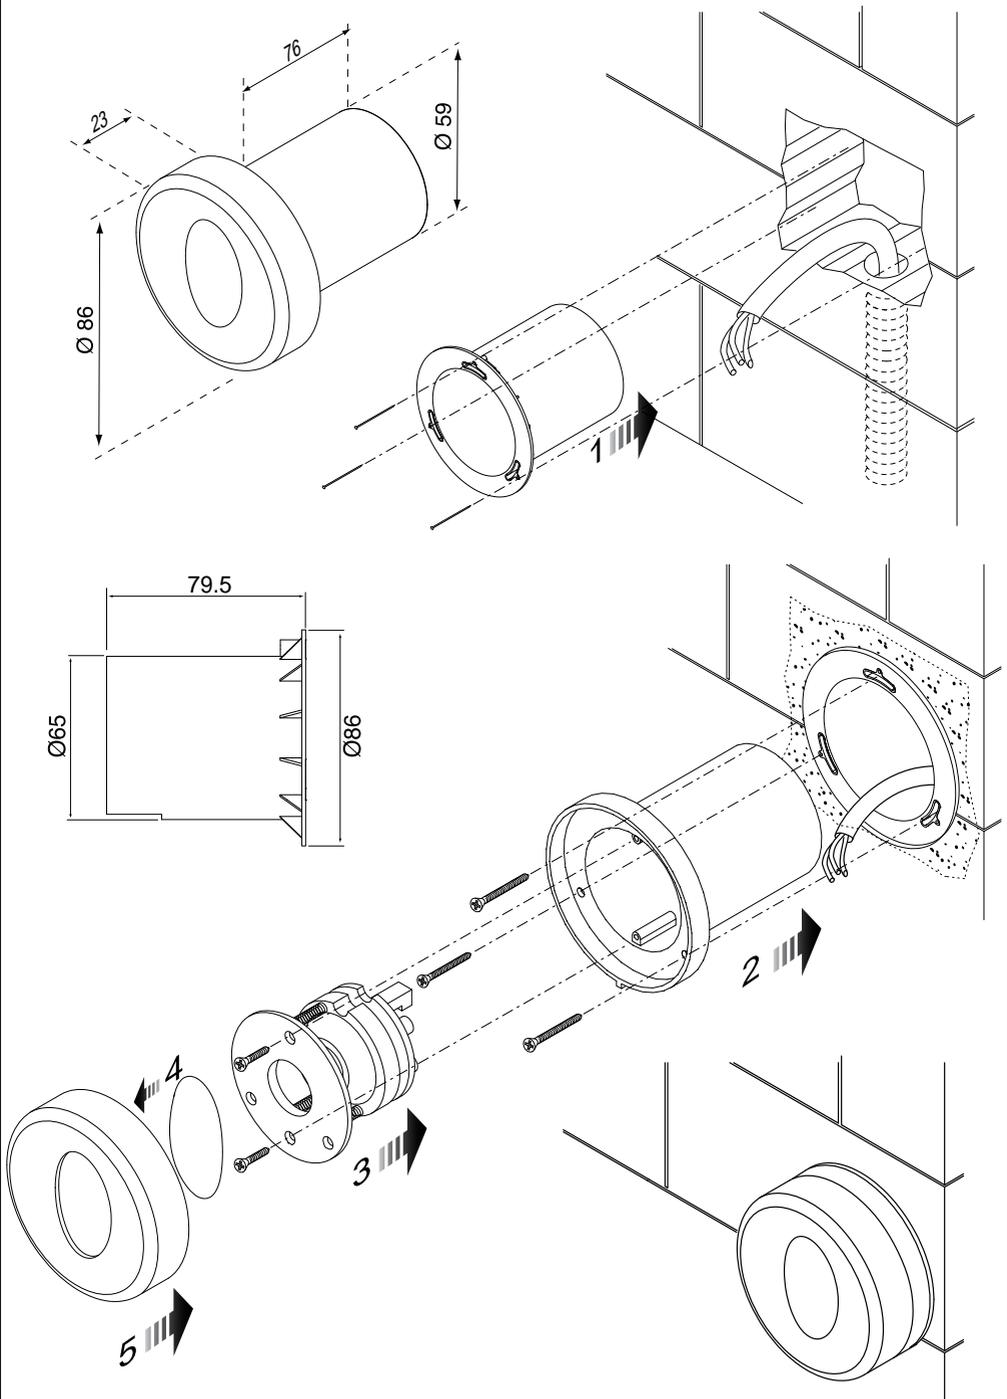

Fig. 2
- In the case of an iron pillar, make a hole using a \varnothing 60 cutter where to insert the plastic container supplied. To secure the container, make three \varnothing 2.7 holes for fastening the three self-tapping screws supplied (fig. 2).